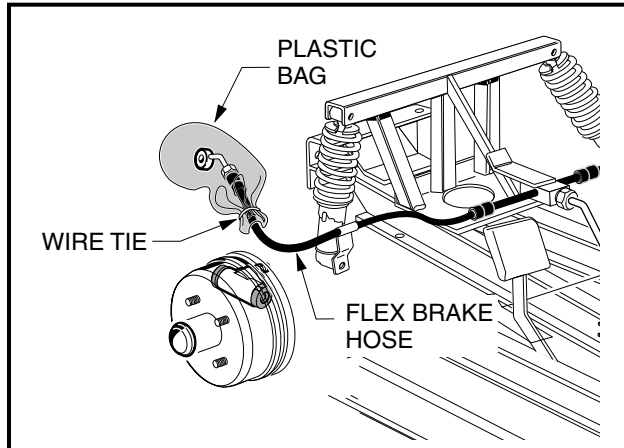

Figure 6b-17 Front Brake Hose With Plastic Bag
2. Remove the banjo bolt (16) and copper washers (17) from the brake cluster assembly (**Figure 6b-3, Page 6b-4**).
3. To avoid spilling brake fluid, lift the hose above the brake cluster assembly and place a plastic bag over the hose fitting to keep dirt and debris from entering the hydraulic brake system (**Figure 6b-17, Page 6b-21**).
4. Using a Torx #T-40 driver, remove the four Torx-head bolts (18), washers (19) and lock nuts (20) that secure the brake cluster and back plate assembly to the front spindle plate (**Figure 6b-3, Page 6b-4**).
1. Use only new hardware for this step. Install the brake cluster back plate to the front spindle flange using four Torx-head bolts (18), washers (19) and lock nuts (20). Using a torque wrench with a Torx #T-40 driver, tighten all four bolts to 76 in-lb (8.6 N·m) (**Figure 6b-3, Page 6b-4**).
2. Install a new banjo bolt (16) and new copper washers (17) to the front brake cluster wheel cylinder (7). Position the elbow of the brake hose toward the rear of the vehicle. Tighten the banjo bolt to 13 ft-lb (17.6 N·m) (**Figure 6b-3, Page 6b-4**).